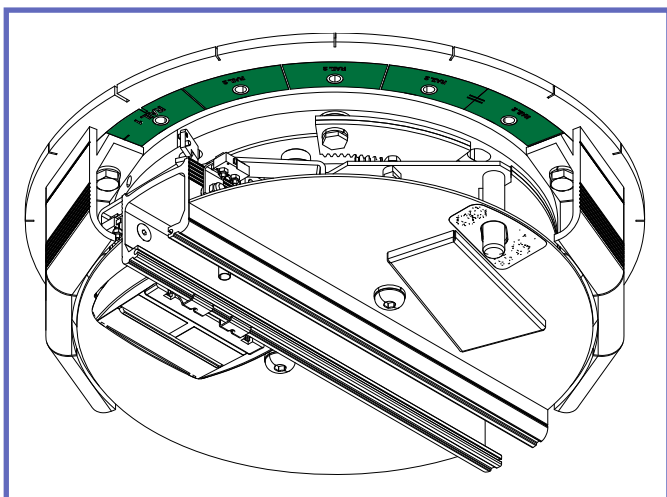

Fig. 3
- There is one main path and the possibility of one secondary path out of four available choices, see Fig.3.
- All tracks must be positioned in the green sections. Do not install any tracks in the red sections (marked "NO RAIL"). The end stopper plates that are pre-installed at the factory completely cover these red sections, see Fig.3 .